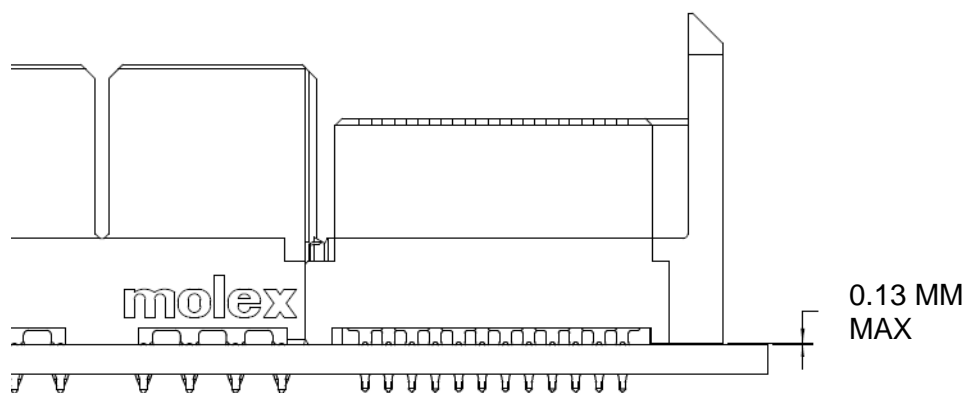

Figure 6.1
- 6.9 Check that connector is fully seated on the PCB and that all compliant tails were pressed in without any bent pins. See Figure 6.1.
- * The plastic shroud should be seated and flush to the PCB, a maximum allowable gap of 0.13mm is acceptable (see figure 6.1).